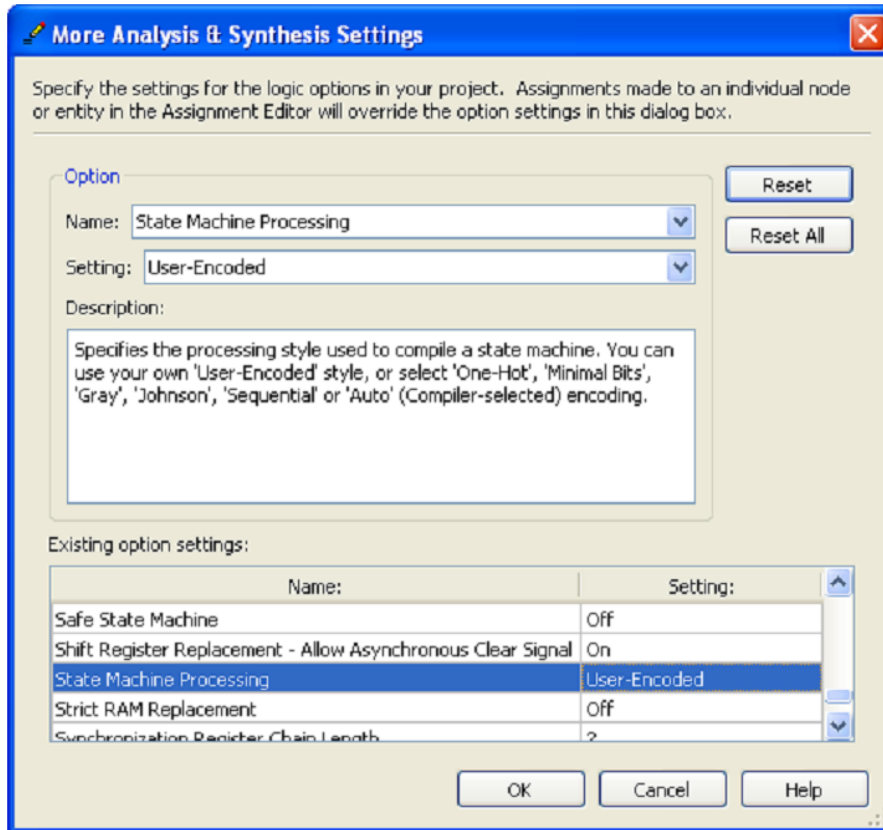

Figure 3: Specifying the state assignment method in Quartus II
2. Include in the project your Verilog file that uses the style of code in Figure 3. Use a pushbutton on the board as an active-low synchronous reset input for the FSM, use a switch as the w input, and a pushbutton as the clock input which is applied manually. Use a LED as the output z , and assign the state flip-flop outputs to the red lights LEDR3 to LEDR0. Assign the pins on the FPGA to connect to the switches and the LEDs, as indicated in the User Manual for the CIC-310 board.